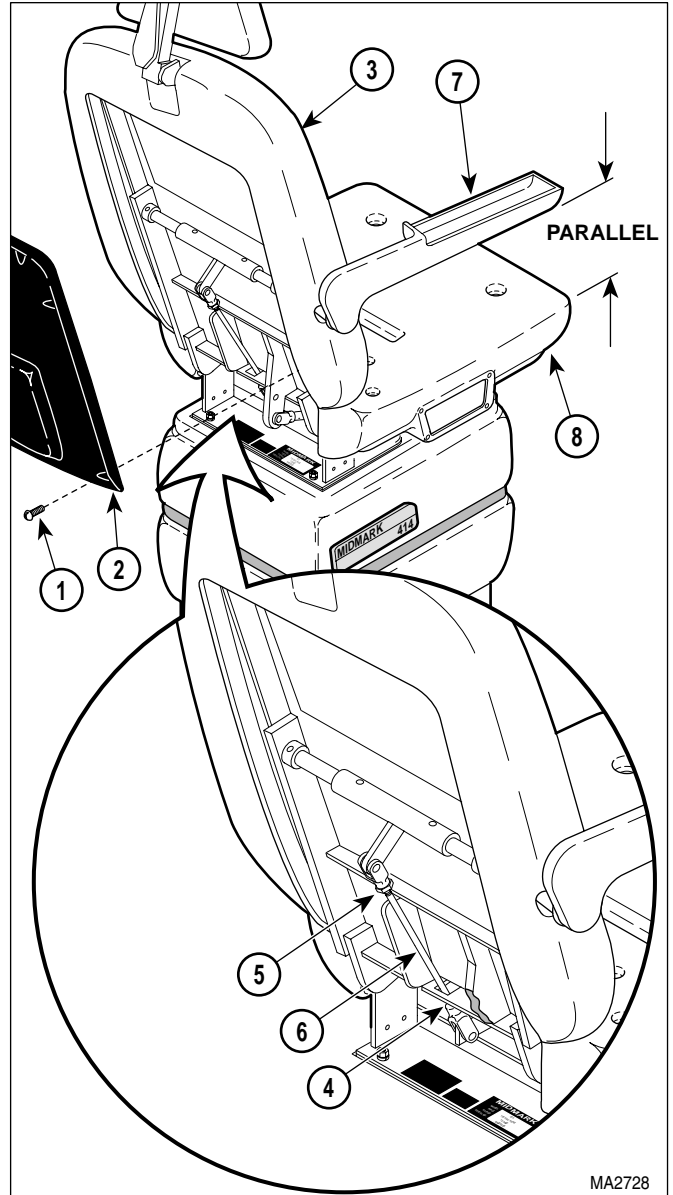

Figure 4-24. Arm Rest Adjustment
- (2) Unplug power cord from wall outlet.
- (3) Remove six screws (1, Figure 4-24) and back cover (2) from plastic back section (3).